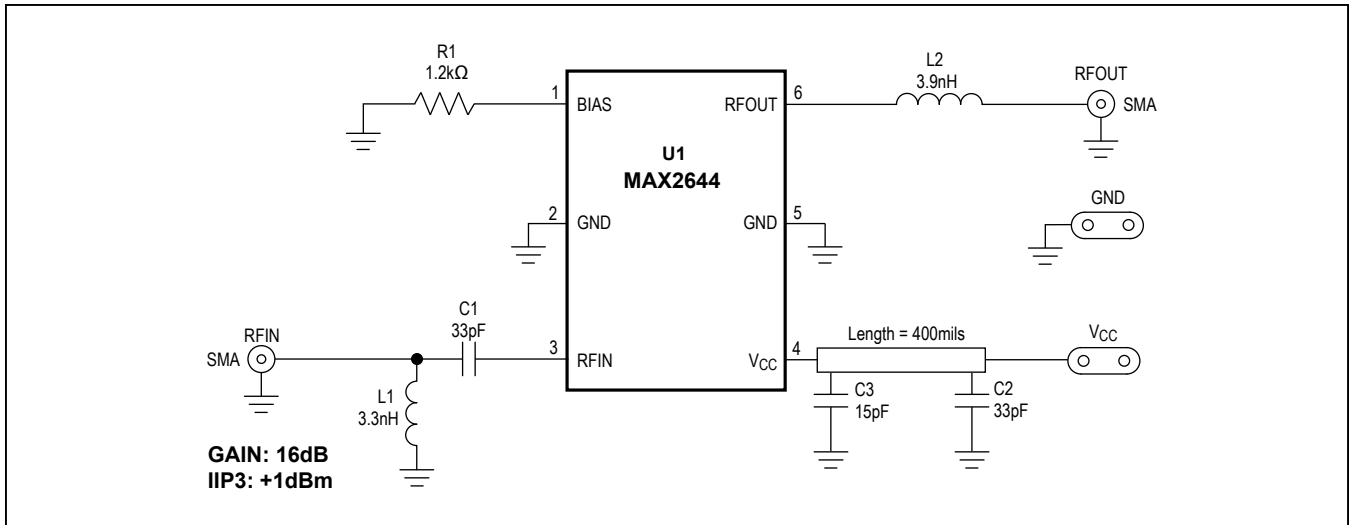

Figure 2. High Linearity Design
- Note 5:** Measured with two input tones (f1 = 2445MHz, f2 = 2455MHz) both at -30dBm per tone. Input IP3 can be improved to +1dBm with circuit shown in Figure 2.